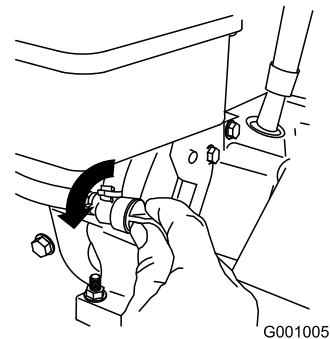

Figure 25
3. Rotate the fuel shutoff valve counterclockwise to open it (Figure 25).